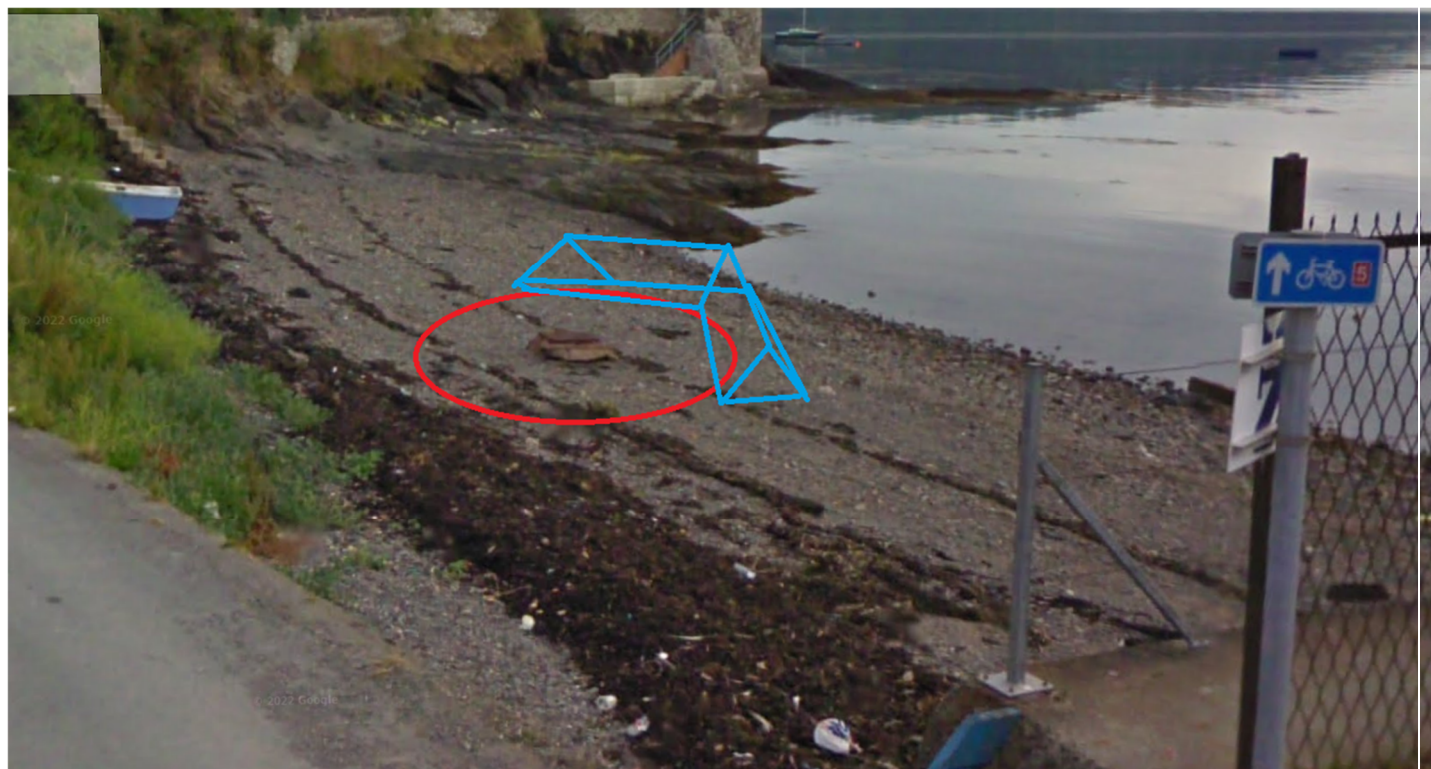

Figure 2, Showing the location of the manhole to be abandoned with the area of excavation in red and the arisings to be used as bund
- The arisings will then be used to form a bund on the sea side of the excavation to help prevent water ingress into the excavation as seen in Fig 2.